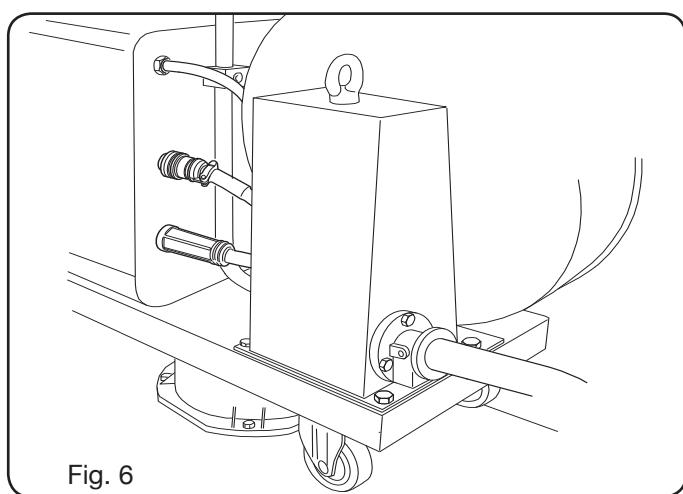

Fig. 6
- Connect the other end of connection BA to the wire feeder trolley as shown in fig. 6.